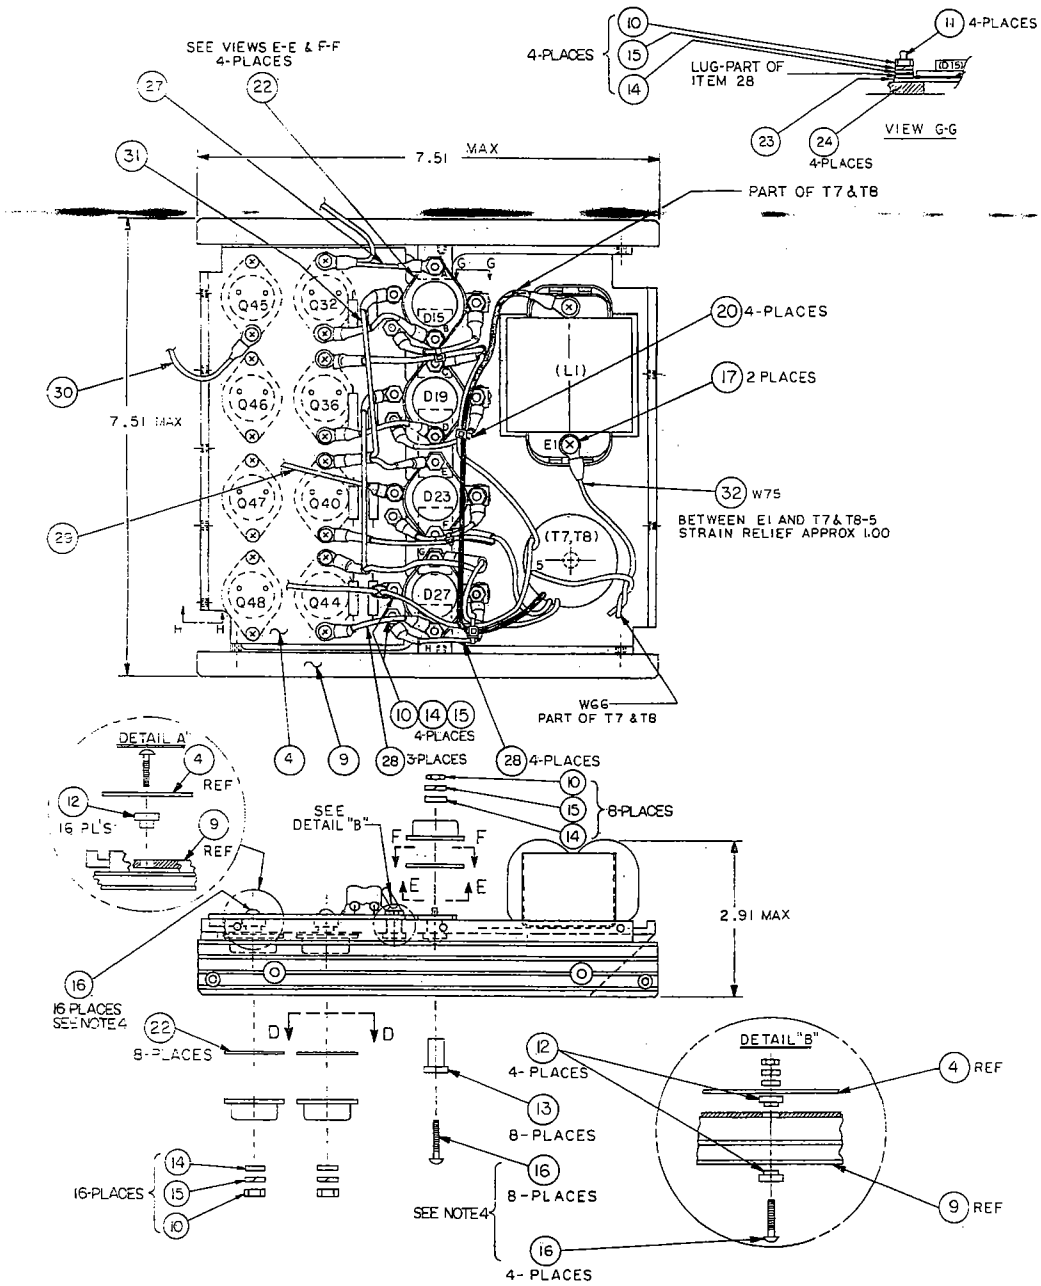
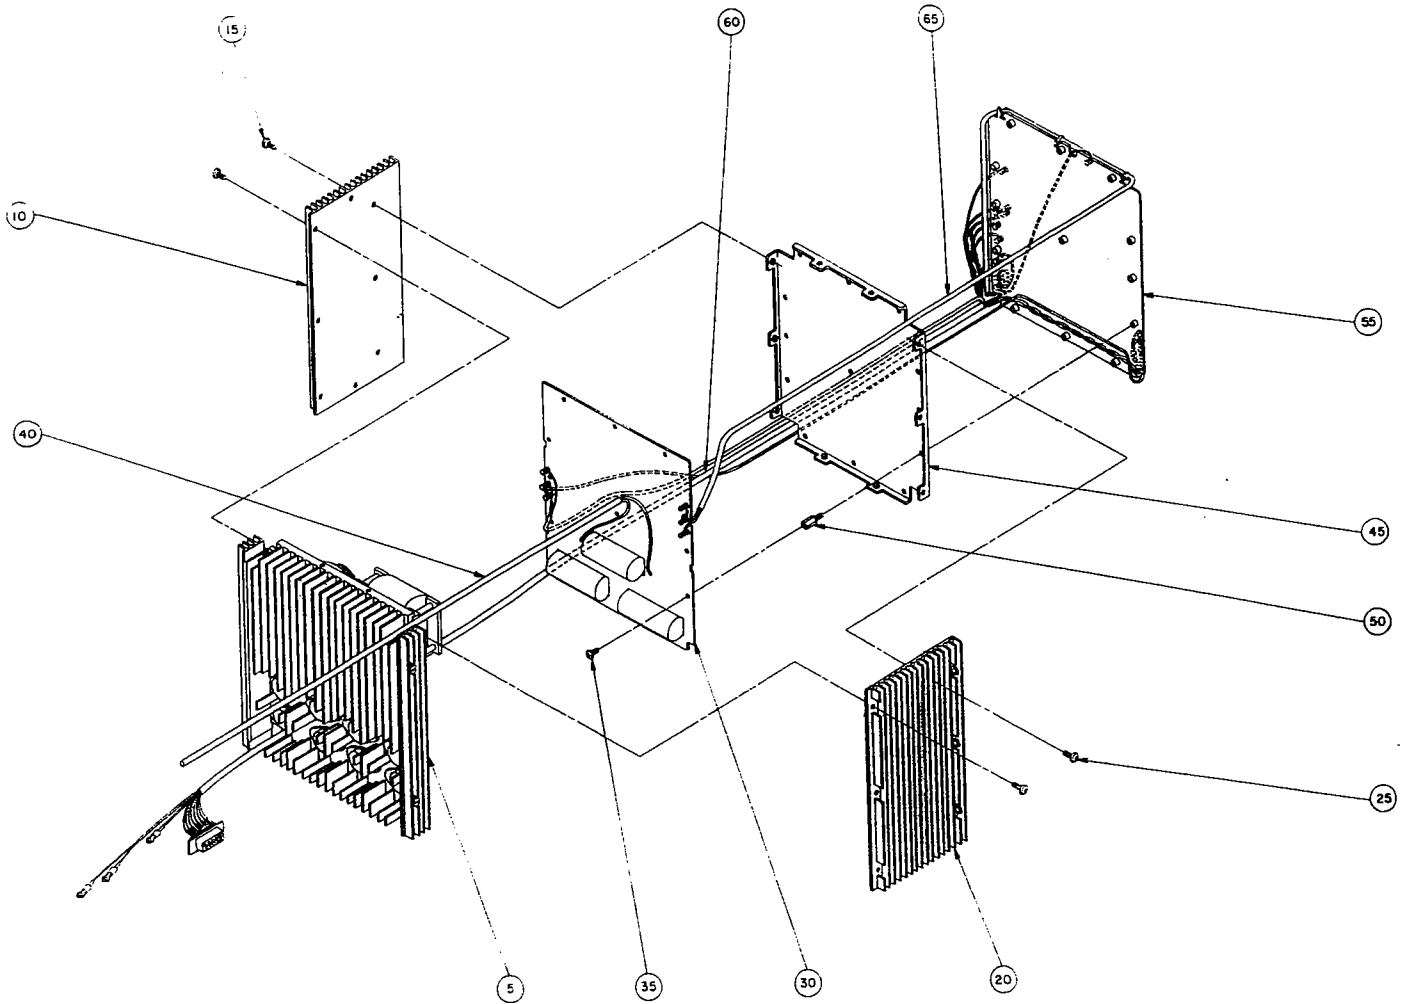
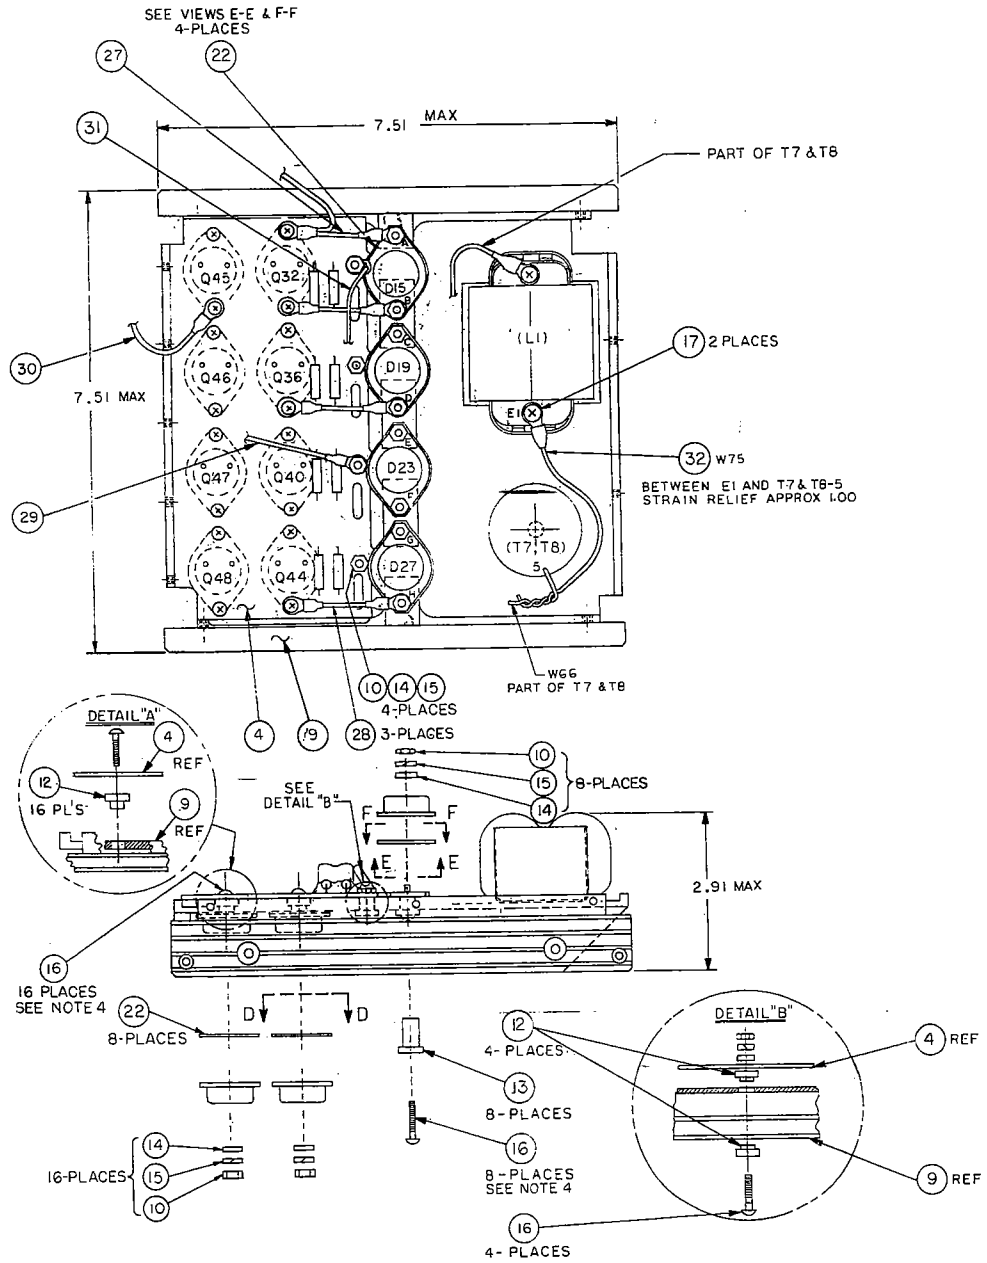

FIGURE 3
FIGURE 5
FIGURE 6
18. Replace the 28 screws with the item (16) screws (p/n 1-001-2802-0063).
19. Replace the 36 self-locking nuts with one each split/lock washer (15) (p/n 1-001-3201-0101), flat washer (14) (p/n 1-001-3201-0100), and spacer (10) (p/n 1-001-2708-0146) as shown in figure 3. Tighten using # 1 Phillips head screwdriver and a torque of 94 to 100 oz-in.
5. Remove four screws (60) securing top rear panel (50) on sides.
6. Remove four screws (55) securing top rear panel (50) on top.
7. Remove top rear panel (50).
8. Remove two screws (30) on bottom edge of rear panel (25).
9. Remove four screws (85) securing bottom rear panel (80) on sides and seven screws (90) securing bottom rear panel (80) on bottom.
10. Remove bottom rear panel (80).
11. Loosen four captive screws (135) on bridge assembly (130).
12. Separate bridge assembly (130) from flyback assembly (95).
13. Using figure 5, locate the 16 screws, items 15 and 25, securing side plates items 10 and 20.
14. Remove eight screws (15) and remove the sideplate heatsink (10).
15. Remove eight screws (25) and remove the sideplate heatsink (20).
16. Using figure 6, locate 28 positions using self-locking nuts to secure the transistors and diodes on the Bridge Power Assembly.
19. Replace the 28 self-locking nuts with one each split/lock washer (15) (p/n 1-001-3201-0101), flat washer (14) (p/n 1-001-3201-0100), and spacer (10) (p/n 1-001-2708-0146) as shown in figure 3. Tighten using # 1 Phillips head screwdriver and a torque of 94 to 100 oz-in.
20. Using figure 5, locate side plate item 20. Install item 20 using the eight screws, item 25.
21. Using figure 5, locate side plate item 10. Install item 10 using the eight screws, item 15.